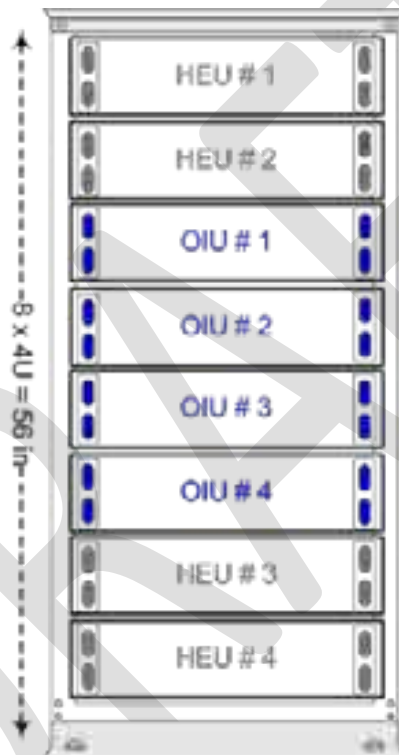
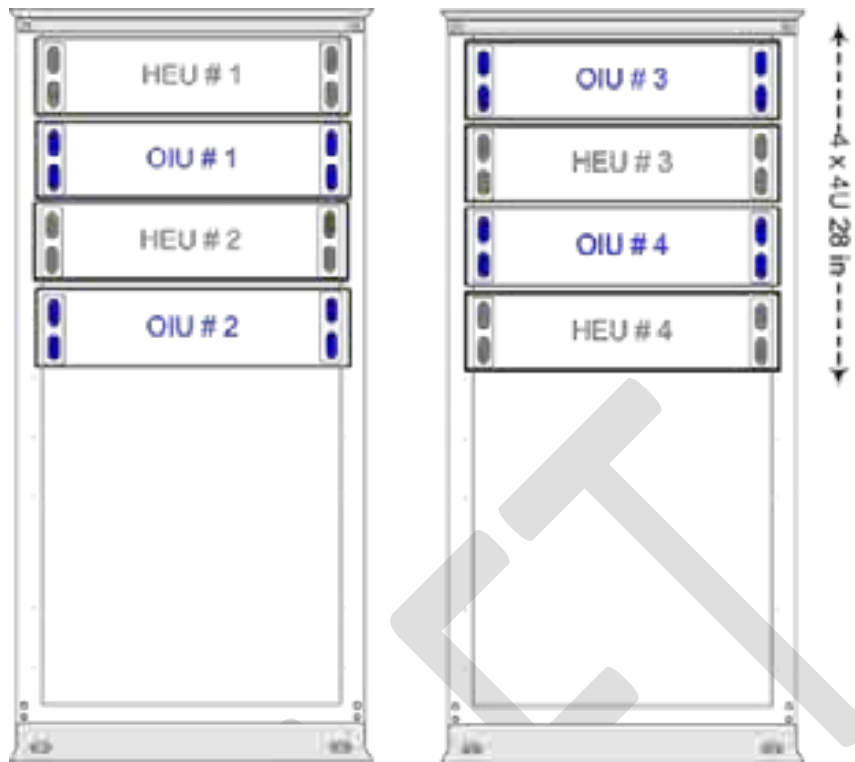

Figure 5-22. 4x4 Rack Installation Diagram – Dedicated.
Figure 5-23. 4x4 Rack Installation Diagram – Shared
2. Figure 5-22 and Figure 5-23 describe the optimal rack installations for 4x4 HEU-OIU configurations in dedicated or shared equipment scenarios.